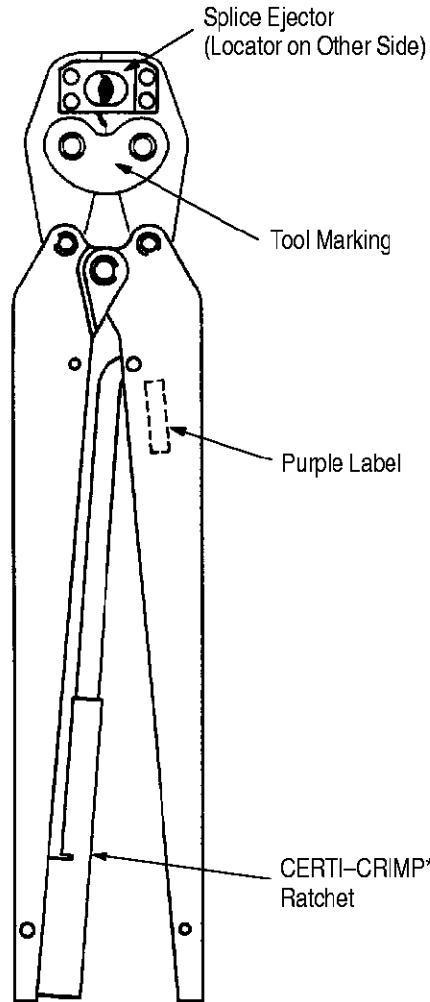

Figure 1
This instruction sheet covers the use of AMP Hand Crimping Tools 45216 and 45219-2 (Figure 1) which are used to crimp the AMP Closed-End Splices listed by part number in Figure 2. The tools are designed to crimp the splices on wire sizes ranging from 22 through 10 AWG. Read these instructions thoroughly before using the tool.
2. DESCRIPTION (Figures 1 and 3)